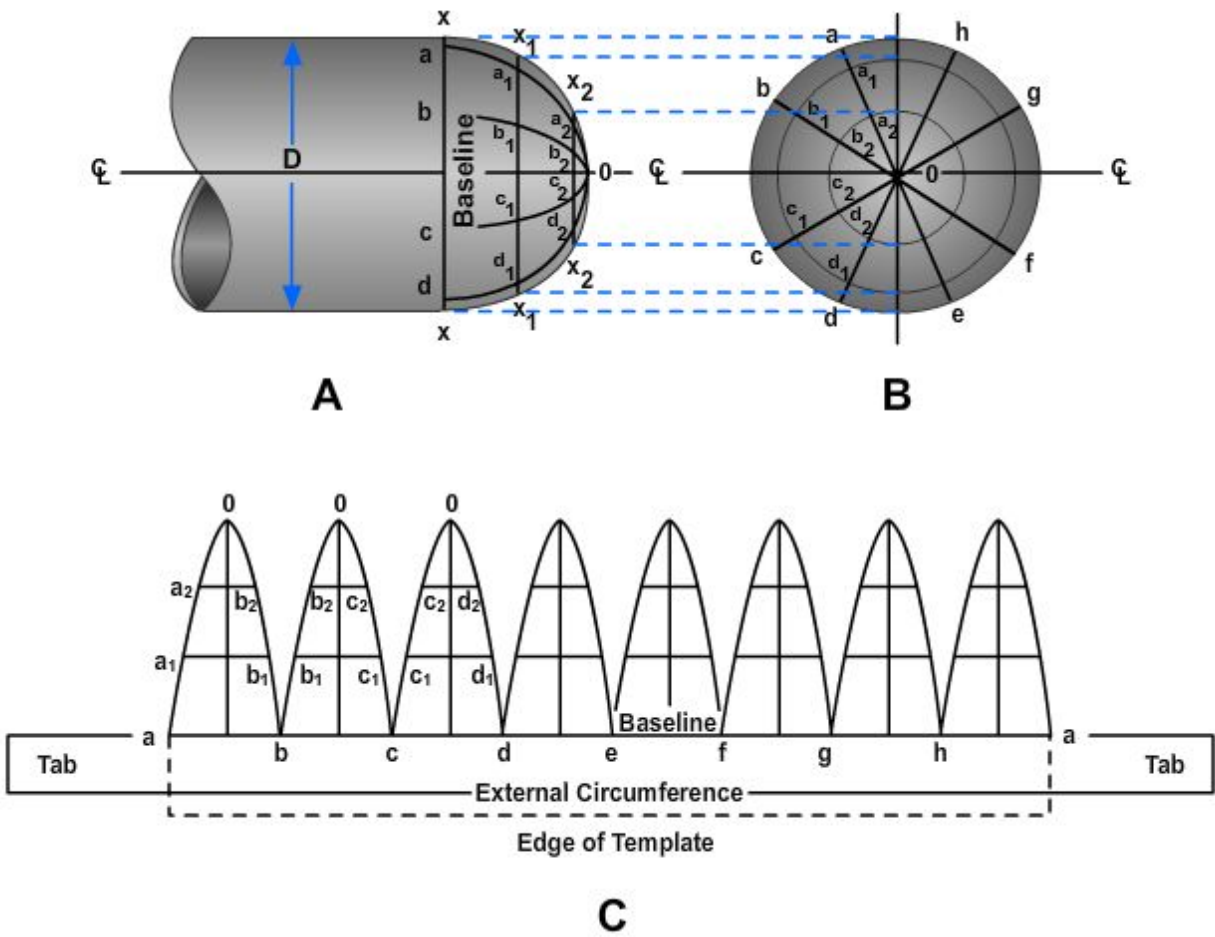

Figure 2-34 — Orange peel head.
1. Draw the side and end views as shown in *Figure 2-34, Views A and B*.